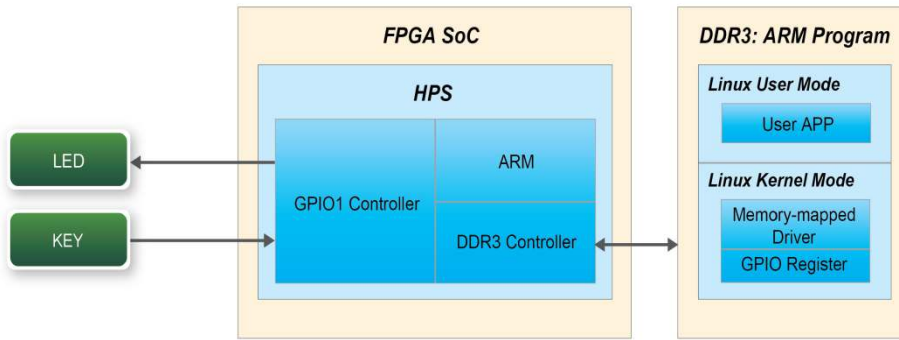

Figure 5-1 Block diagram of GPIO demonstration
**Figure 5-1** shows the function block diagram of this demonstration. The users LED and KEY are connected to the **GPIO1** controller in HPS. The behavior of GPIO controller is controlled by the register in GPIO controller. The registers can be accessed by application software through the memory-mapped device driver, which is built into SoC Linux.